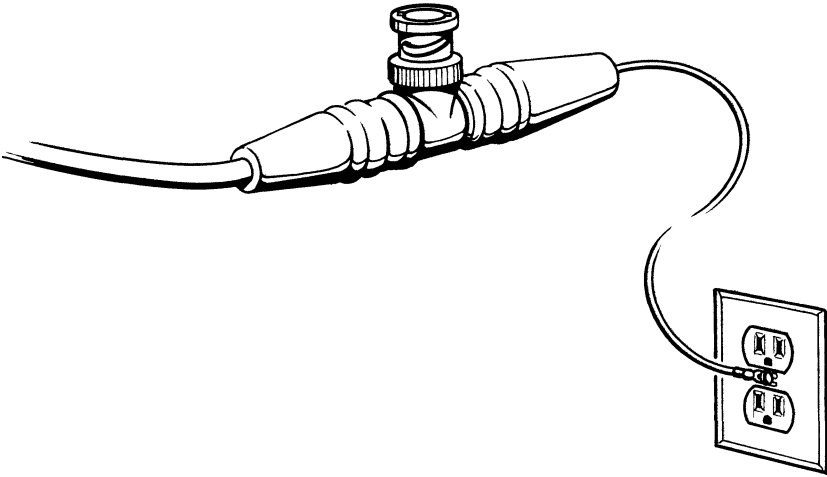

Figure 2-14. Grounding a Terminator
1. One of the terminators has a green wire with a lug at the end. Connect this lug under the screw of a grounded AC wall plate as shown in figure 2-14.